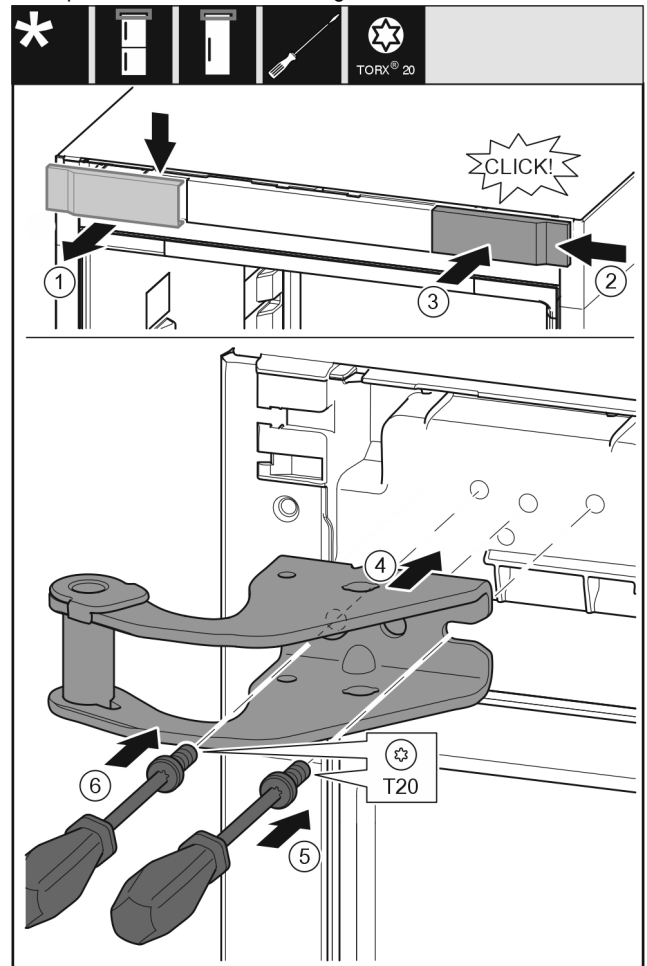

Fig. 14
▶ Remove the cover Fig. 14 (1) from above towards the front.
▶ Turn the cover Fig. 14 (2) by 180° and attach to the other side from the right.
▶ Engage the cover Fig. 14 (3).
▶ Place the top swap bearing block Fig. 14 (4).
▶ Use screwdriver Fig. 14 (5) to place the screw and tighten it.
▶ Use screwdriver Fig. 14 (6) to place the screw and tighten it.